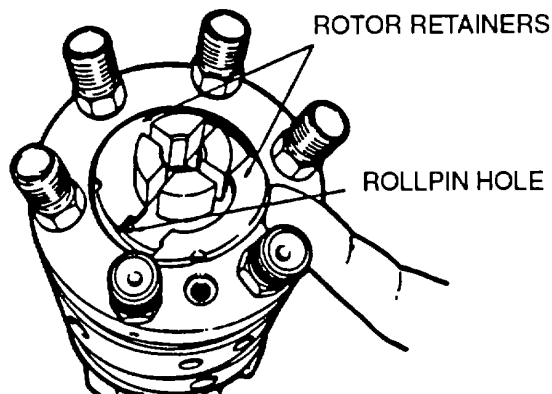

FIGURE 3-83. Removing Rotor Retainers
- ay. Remove two rotor retainers (23), refer to FIGURE 3-83.